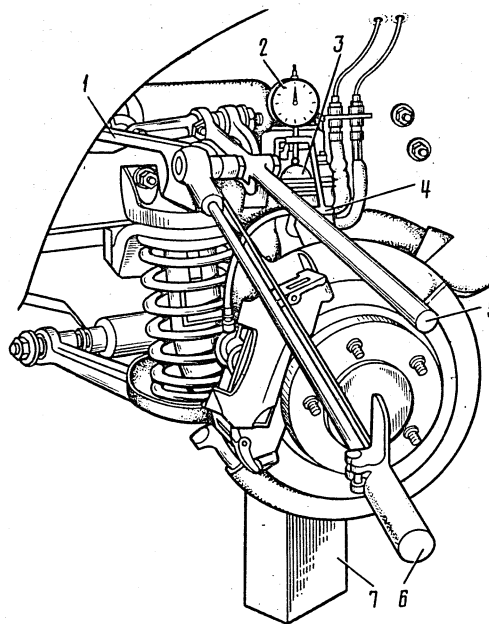

Fig.4-3. On-Car Checks of Clearance in Suspension Upper Ball Joints:
- secure indicator bracket 4 (Fig. 4-3) on the upper end of the steering knuckle;